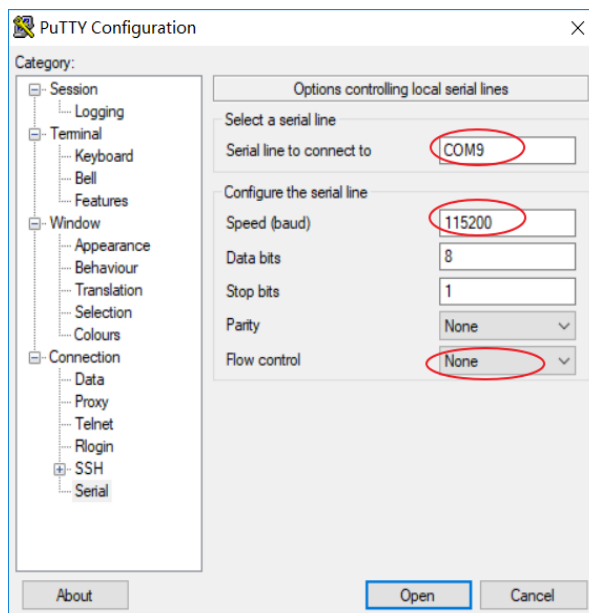

Figure 5-12 Set Port Paramaters
- Set the PuTTY Configuration, set COM port number as same as shown in Device Manager, baud rate “115200”, Flow Control select “None”, as shown in **Figure 5-12**.